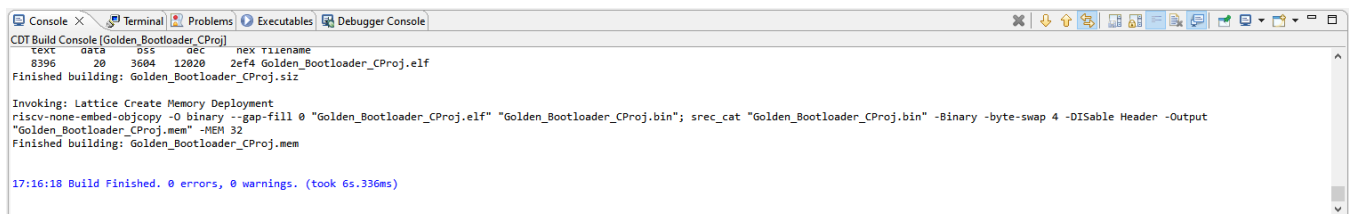

Figure A.27. Build Complete
- Wait for the process to complete. After completion, a message is printed in the console as shown in Figure A.27.